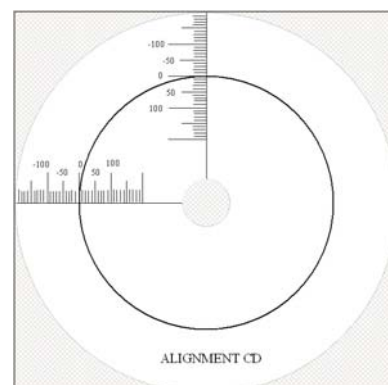

Figure 2
4. The alignment guide will be printed on the disc (see figure 2).